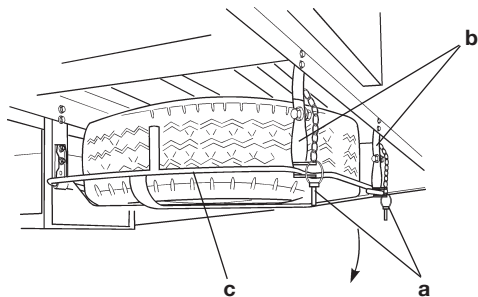

Fig.3
- c) Lift the wheel carrier frame (c) slightly and move the frame supports (b) forward and clear of the carrier frame (Fig. 3).